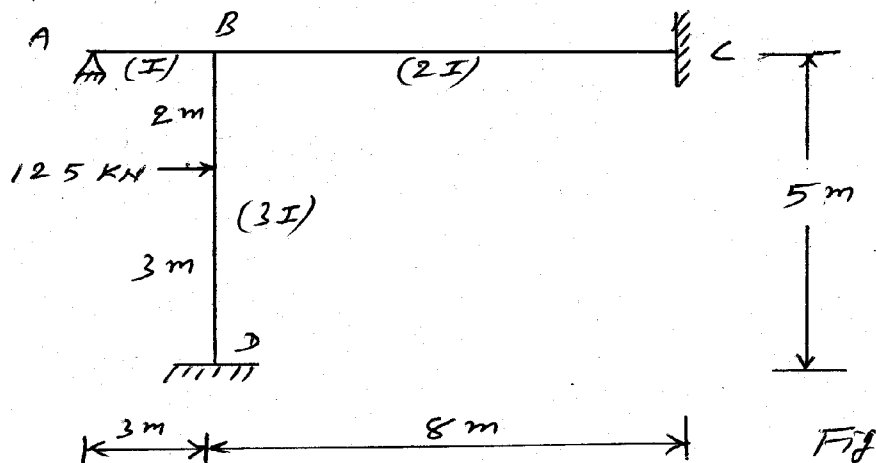

Fig.3
- (b) Using the displacement method, analyse the frame shown in figure 3. 10